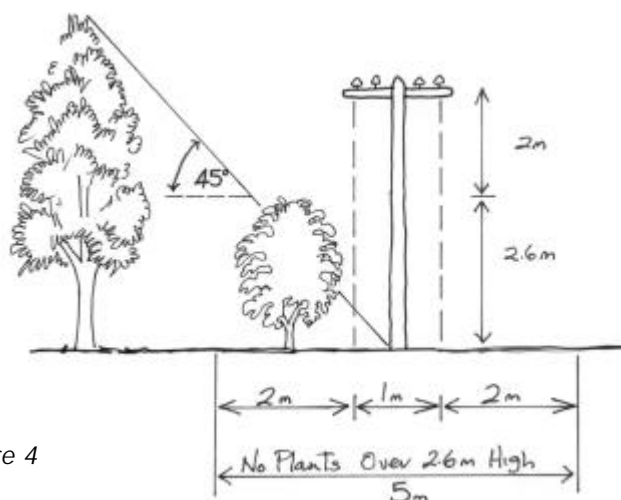

Figure 4
- Maximum planting height of any plants is 2.4m within the 5m wide corridor under the powerlines (2.5m either side of the power poles) (figure 4).
- Maximum planting height of any plants is 2.4m within the 5m wide corridor under the powerlines - 2.5m either side of the power poles (*figure 4*).